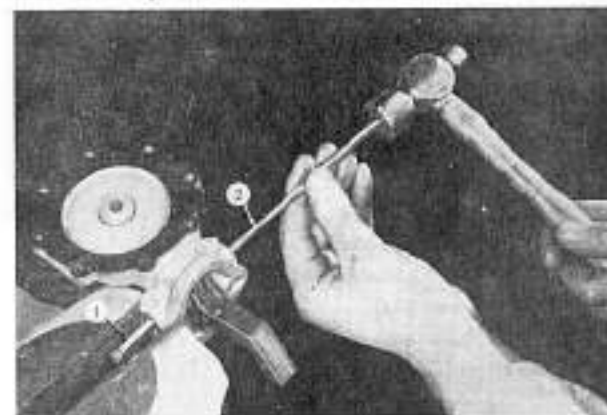

Fig. 391
To remove the rocker arm assembly, file the riveted end of rocker arm pin flush with the steel washer or cut off the end with 3/8-inch (9.5 mm.) drill. Drive out the rocker arm pin (1, Fig. 391) using AC tool PT 6, Kent-Moore tool No. KMO 707 (2). Wiggle the rocker arm until the links unhook from both diaphragms. Then remove the rocker arm spring, rocker arm, and link assembly.